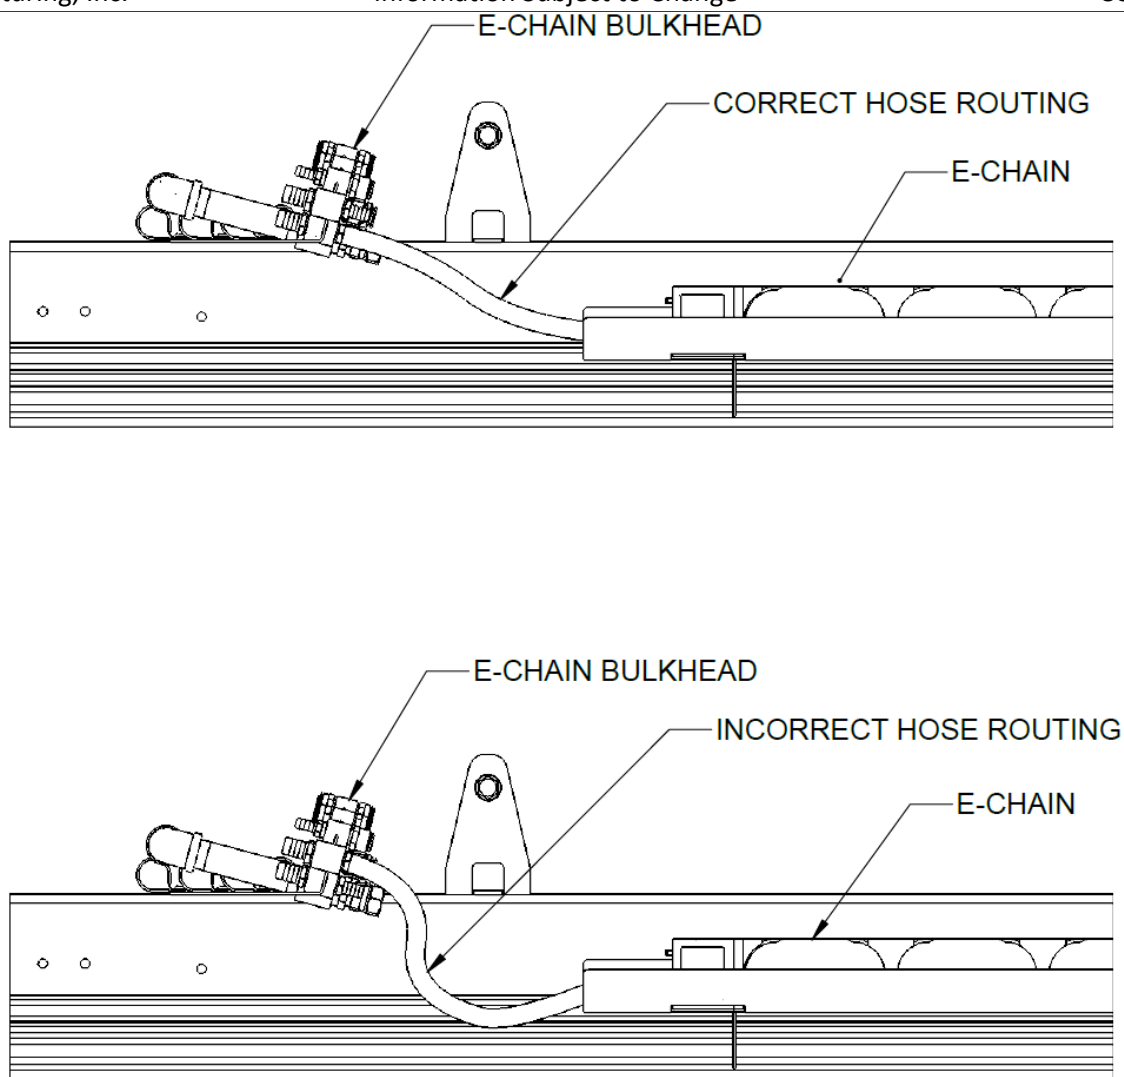

Figure 57 - E-Chain Hose Routing Path-Correct and Incorrect
- Connect the High Pressure hose to the bulkhead manifold installed on the rail. Route the high pressure hose so there is no sag in the hose. The hose must have a smooth curved shape and go straight into the e-chain as well as align naturally with the bulkhead fitting. If needed, push the hose into the e-chain to achieve this. This is to prevent rubbing and premature wear. It should not be necessary to apply excessive force to line up and connect the high pressure hose to bulkhead fitting. See Figure 57 for correct and incorrect hose routing.